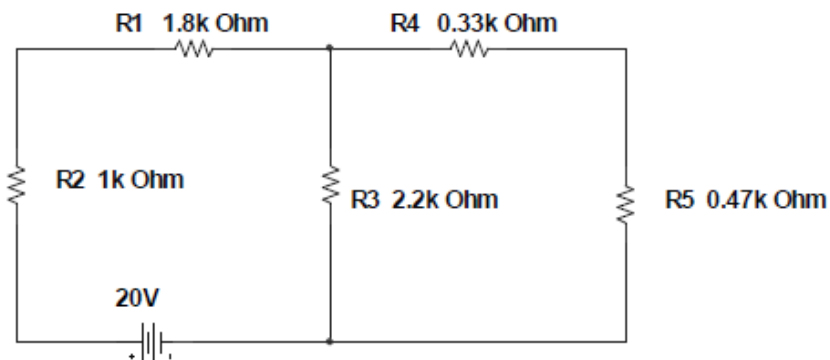

Figure 3
- Now disconnect the 15 V source and link the resistors R3 and R5 as shown in the circuit in Fig. 3.